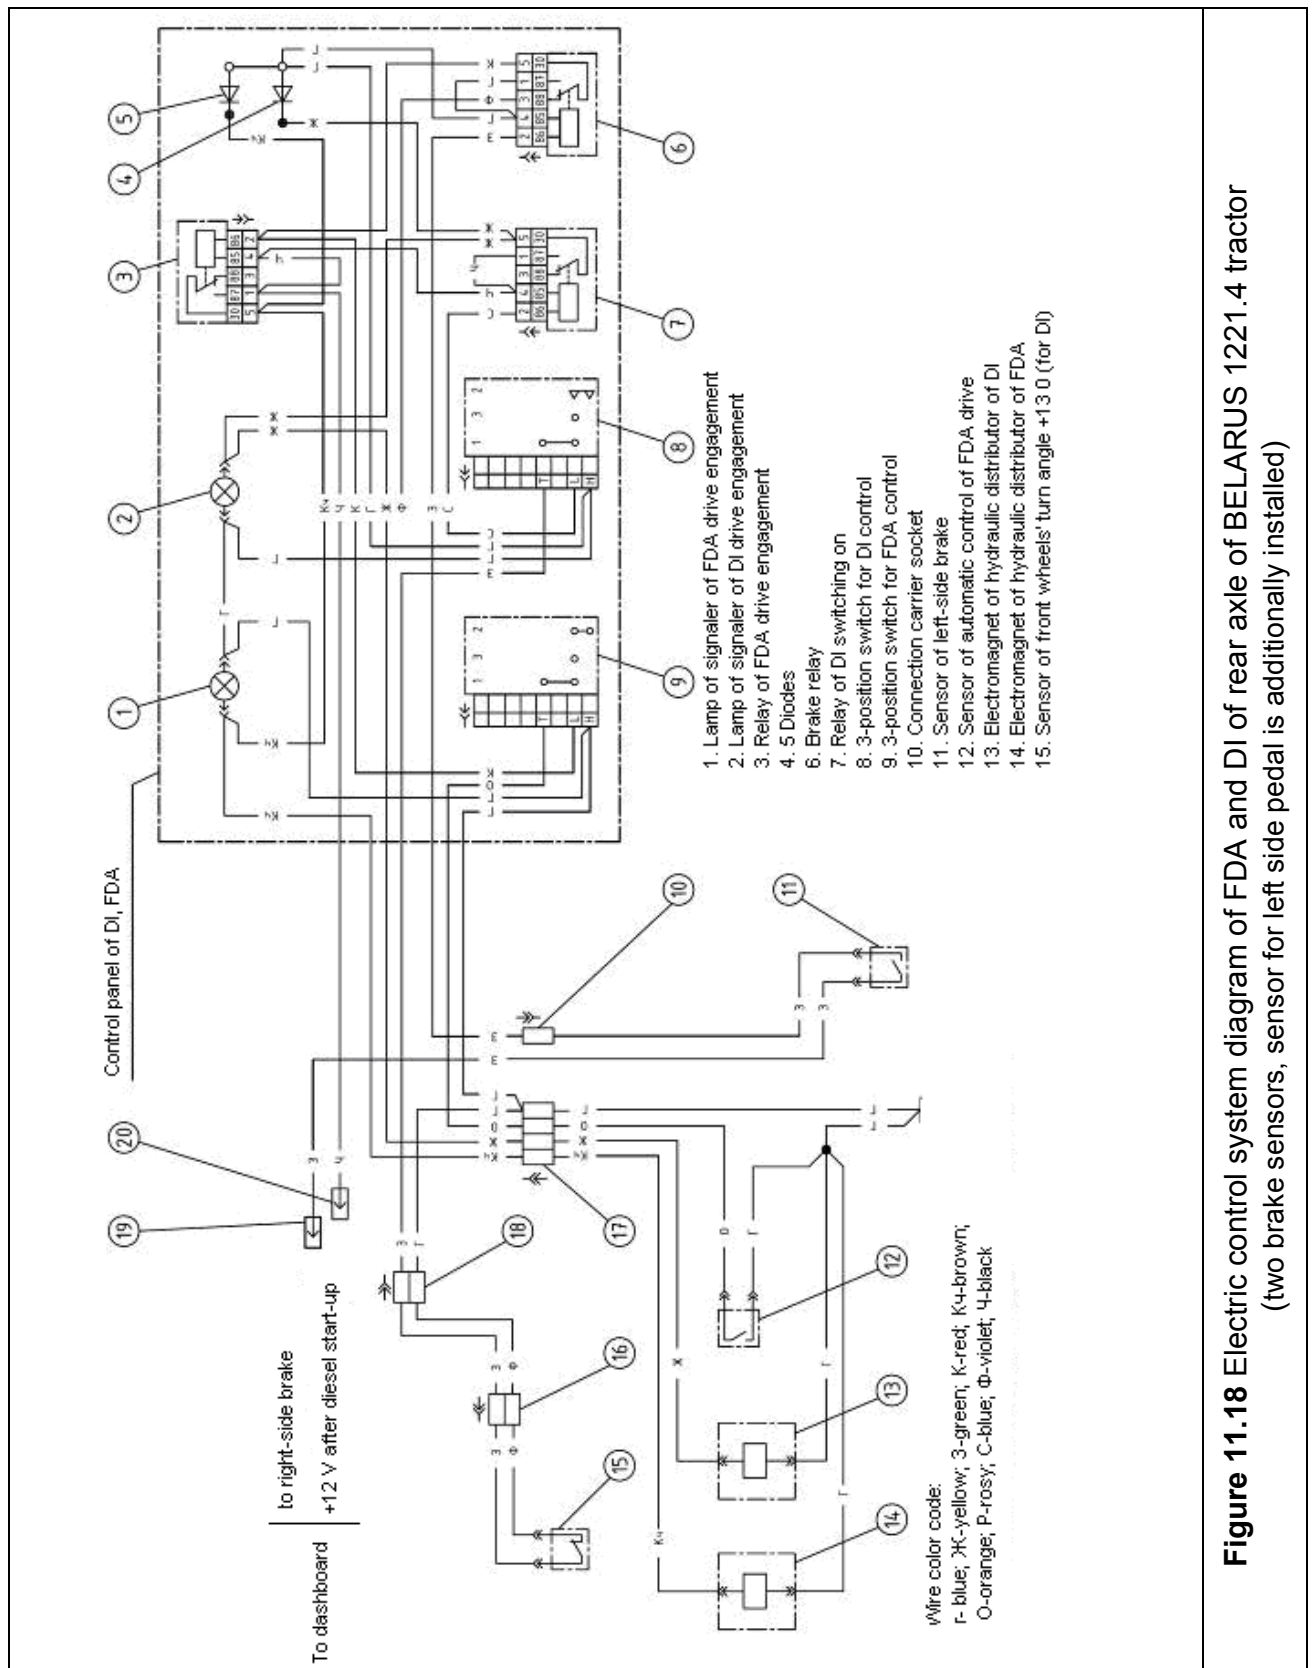

Figure 11.18 Electric control system diagram of FDA and DI of rear axle of BELARUS 1221.4 tractor
- a) before dismounting the cabin disconnect connectors of cabin harness (8) from engine harness (7) and transmission harness (18);
- b) After mounting the cabin connect terminals of cabin harness (8) to engine harness (7) and transmission harness (18).
- Replace harness of DI, FPTO and FDA control system according to diagram (Figure 11.18).